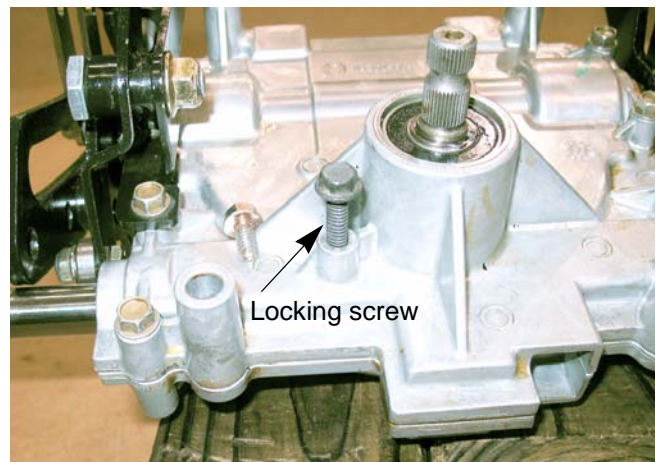

Figure 6.18
- 3a. Remove the 1/4"-20 plug screw from the steering gear box centering port using a 3/8" wrench. See Figure 6.18.